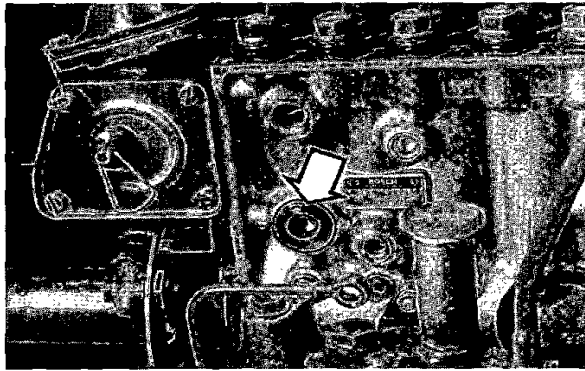

Fig. 129. Socket-head plug
9. Remove the socket-head plug with washer (fig. 129), so that the No. 1 lifter is seen. (Allen key 8 mm = 5/16").
4. Remove the socket-head plug with washer (fig. 129), so that the No. 1 lifter is seen. (Allen key 8 mm (5/16"), 60 series and 12 mm (15/32"), 70 series).